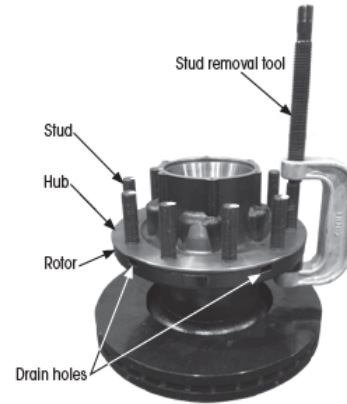

Figure 10: Pressing out old studs
3. Using a hydraulic press or stud removal tool (Figure 10), press out each stud. Once all the studs have been removed, the hub and rotor can be separated.